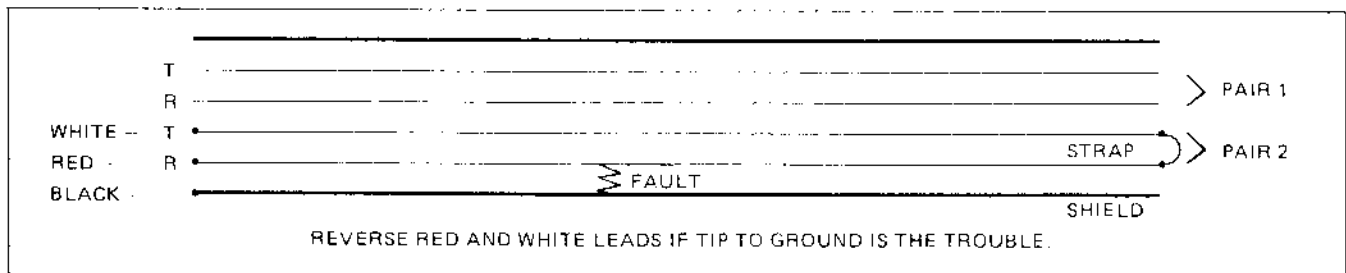

Figure 4 - Ring Ground with Other Good Conductors in the Same Cable
- (C) The temperature chart will allow the operator to program in a known gauge at a known temperature for extremely accurate measurements.
- (A) The following diagrams (Figures 4 thru 9), indicate a variety of "trouble conditions" that may be encountered, and how to properly connect the test leads.